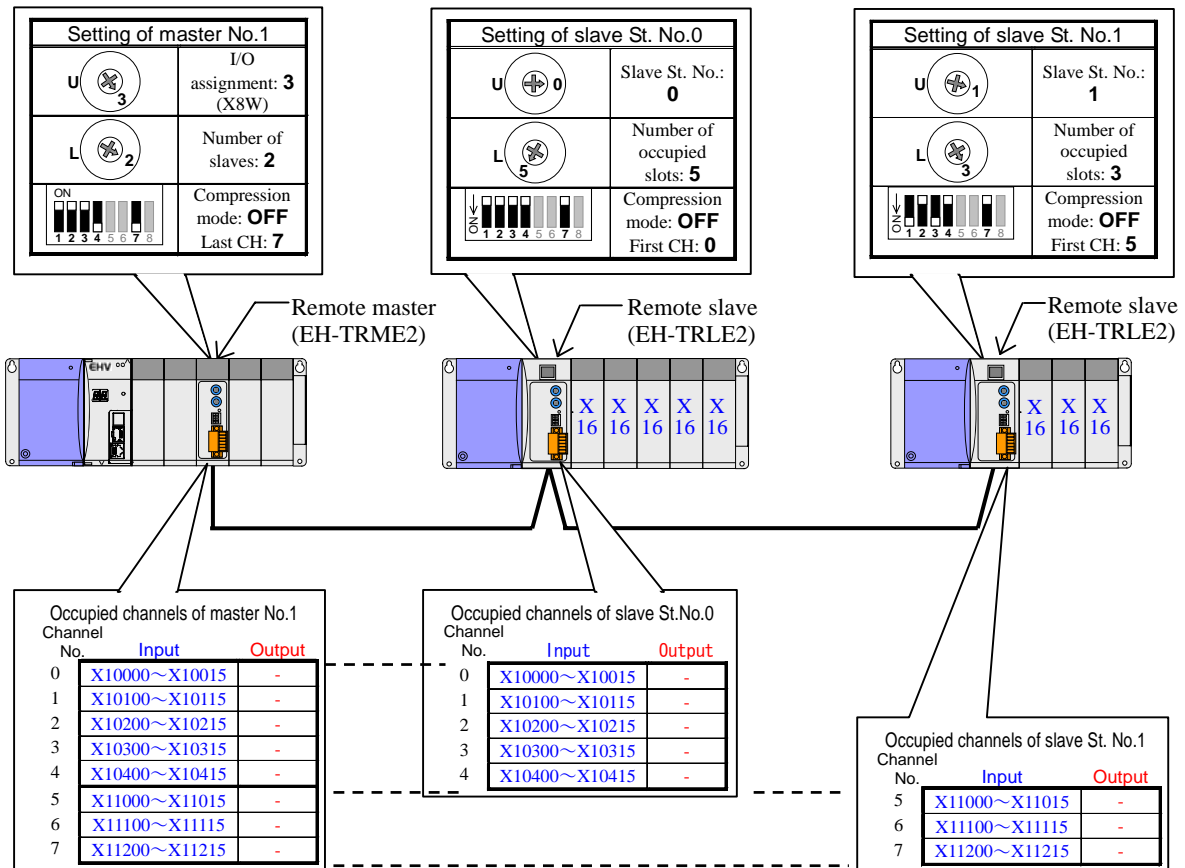

Figure 4.5.6 System configuration example after replacement to EH-150 (Mode3)
Figure 4.5.6 shows replaced system configuration example with compact remote2.
Figure 4.5.6 is an example of replacing all of master and slave modules with the EH-150 series. It is also possible to leave all or partially slave modules like the H-200 series in order to postpone the wiring work of slaves. In this case, please turn off high-speed refresh mode (HS) of a front DIP switch of the master module and the slave modules, and turn on communication mode (MODE) of a front DIP switch of them.